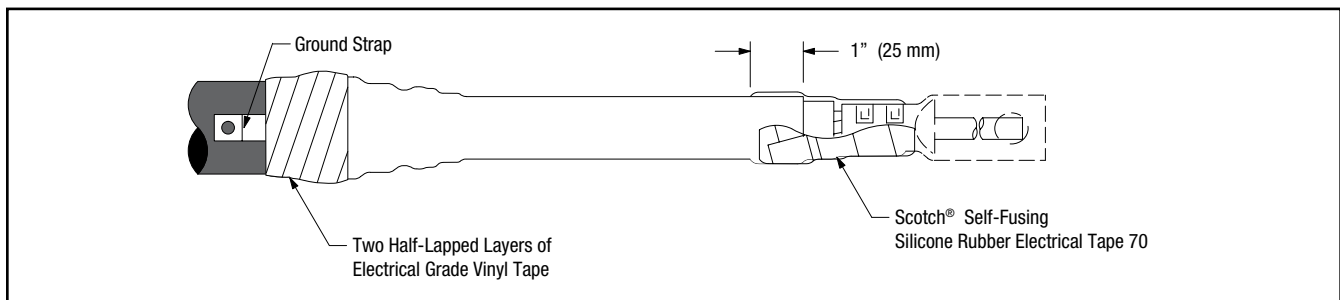

Figure 16
- f. Wrap two highly stretched half-lapped layers of electrical grade vinyl tape around mastic seal (Figure 16). Overlap the edges of the mastic seal by 1/2" (13 mm) minimum.